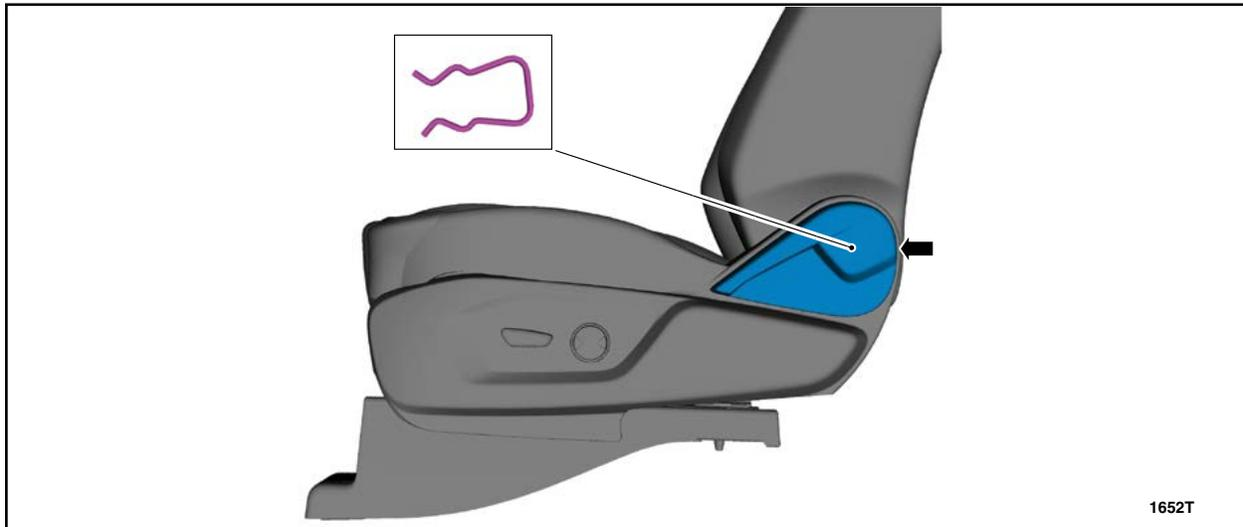

FIGURE 19
3. If equipped, remove the recline handle. See Figure 19.